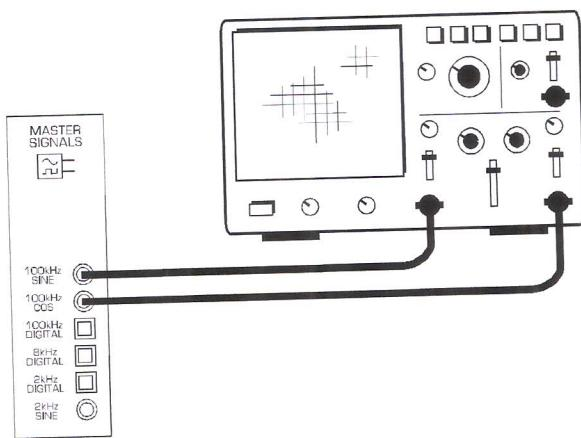

Figure 4
9. Connect the set-up shown in Figure 4 below.